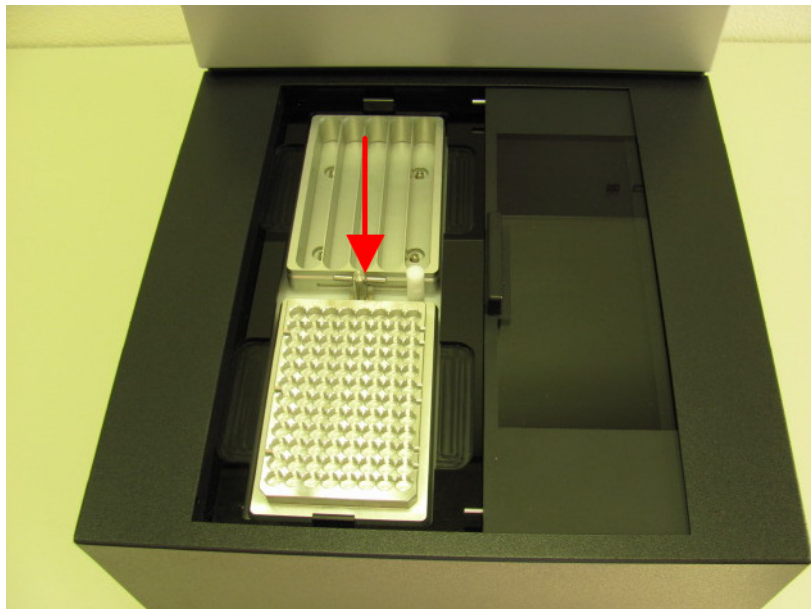

Figure 4-16: Locking the adapter screw.
4. Turn the adapter screw to its locked position (Figure 4-16).